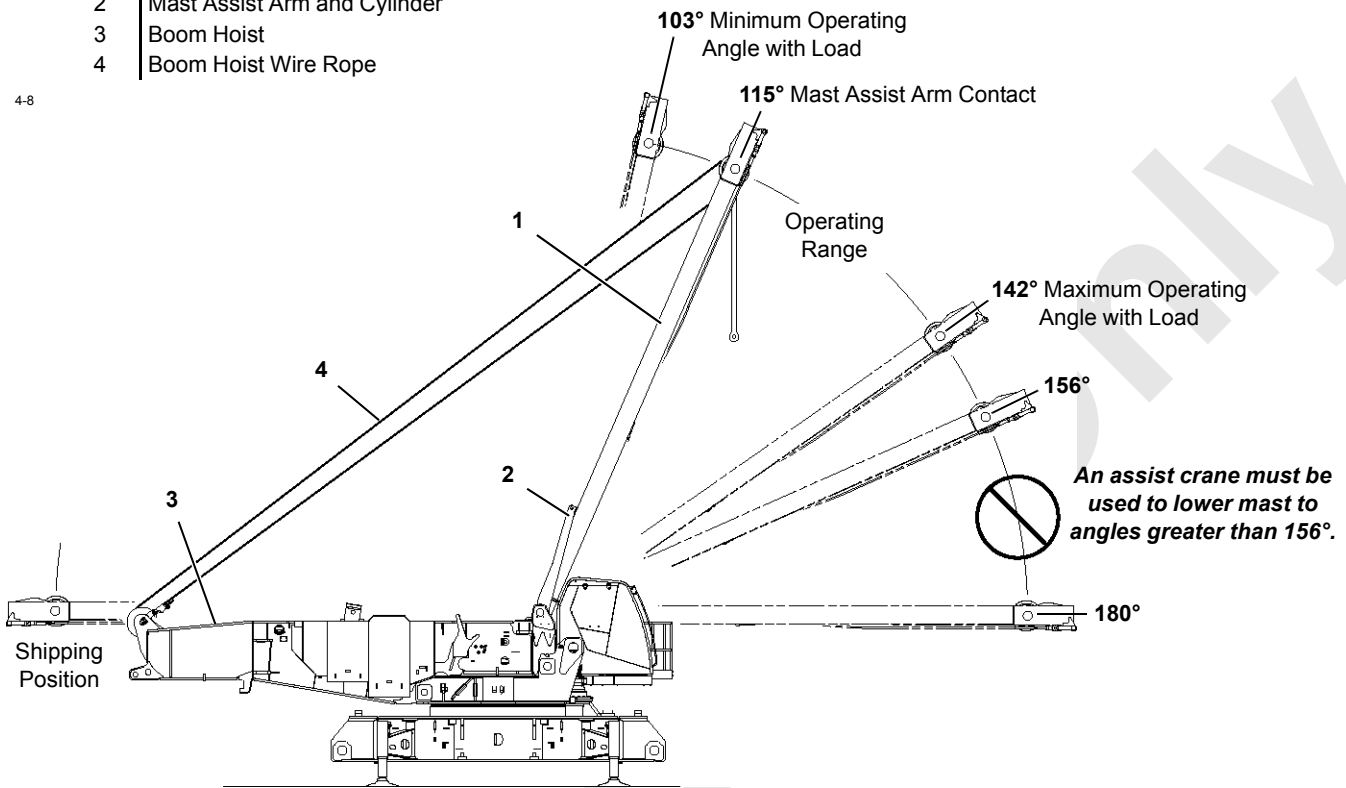

FIGURE 4-9
See Figure 4-9 for the following procedure.
10. Once mast is at or above 156°, support mast with boom hoist wire rope and disconnect handling pendants (2) from assist crane block.
13. Position mast in operating range (see Figure 4-9).